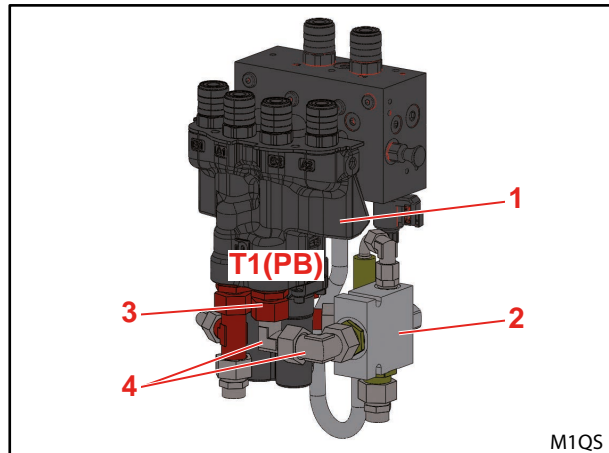

Fig. 9 Installing the compensator valve
- (1) Install 1 straight screw-in connector with union nut on each connection P, T and T1 (PB) of the proportional valve (see also Fig. 9).